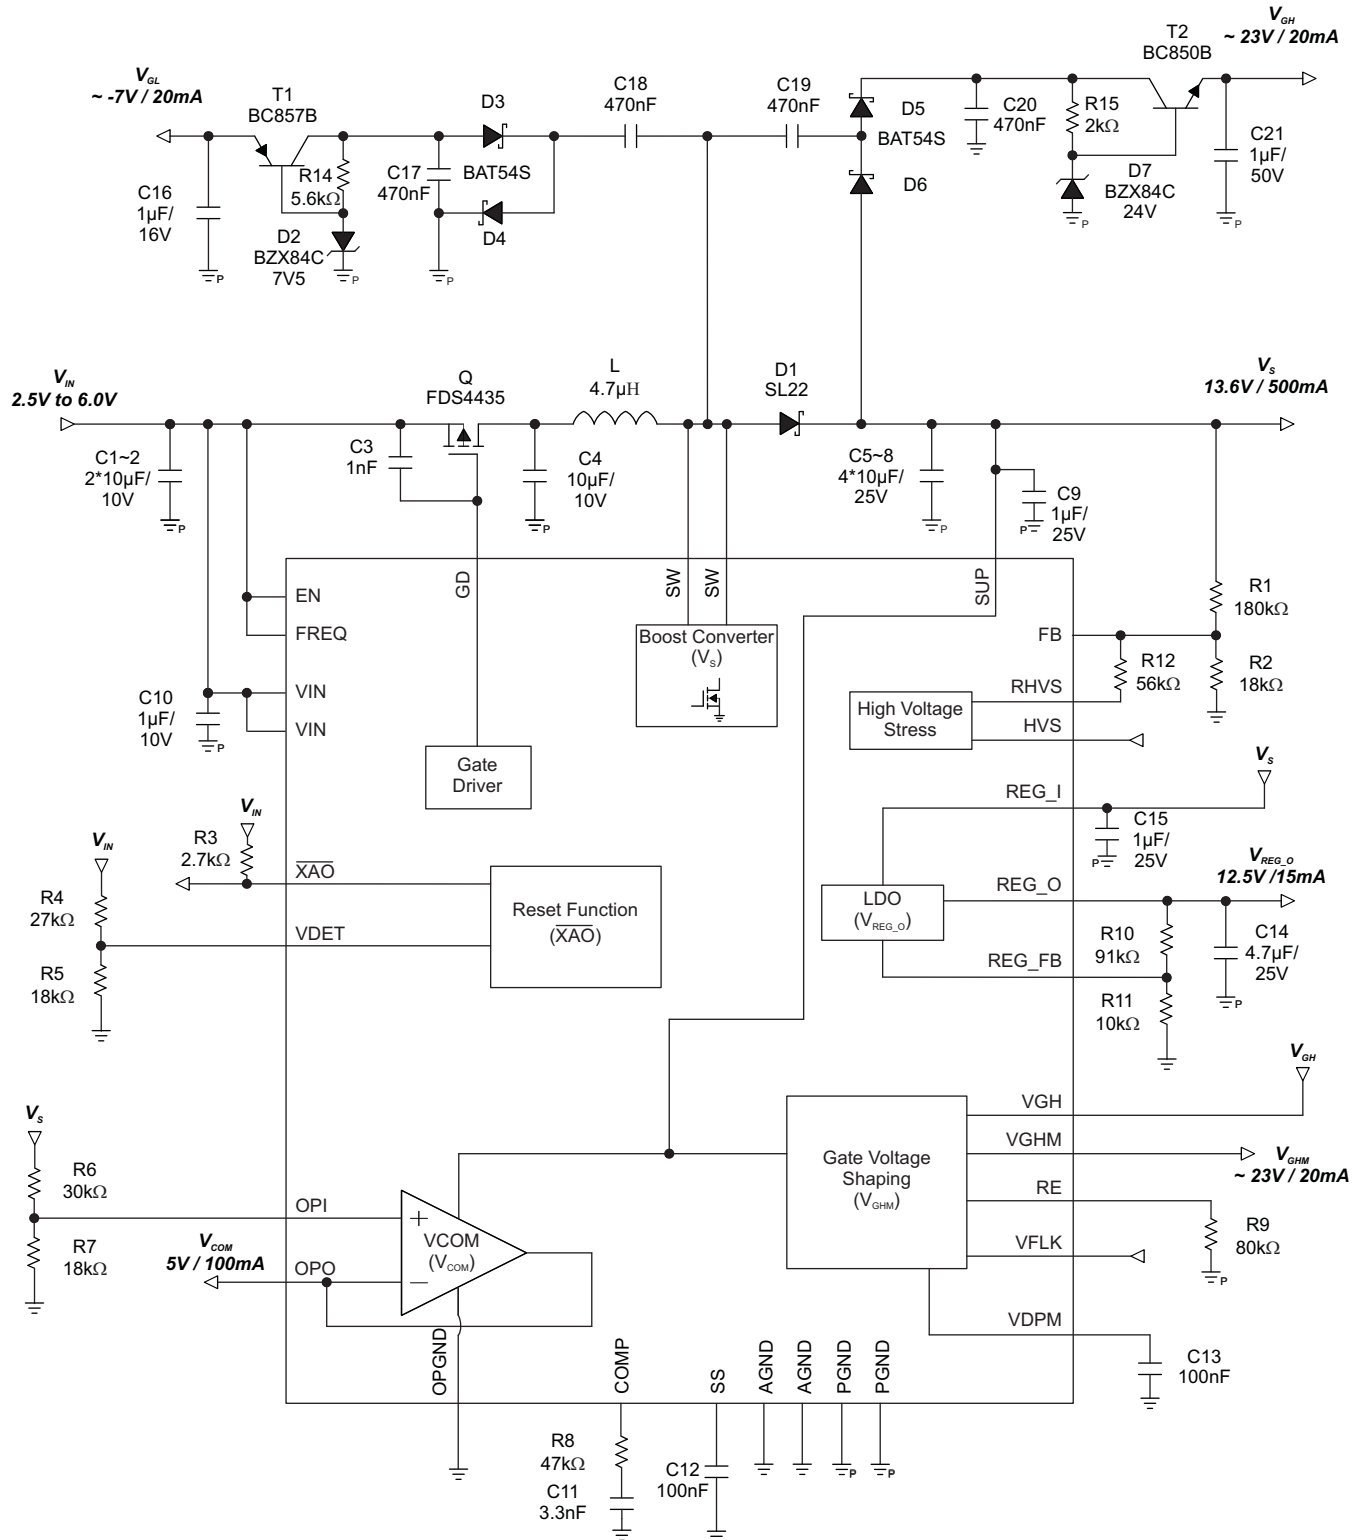

Figure 28. TPS65148 Typical Application with Positive Charge Pump in Doubler Mode Configuration
**Doubler Mode:** if the  $V_{GH}$  voltage can be reached using doubler mode, then the configuration is the same than the one shown in Figure 28.